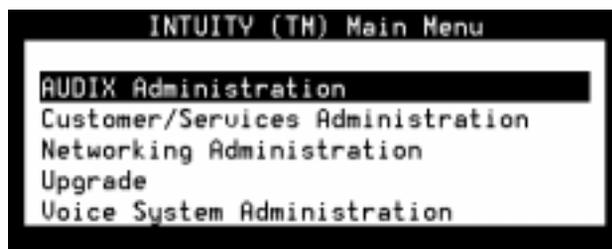

Figure 8-1. Lucent INTUITY Main Menu
2. Start at the Lucent INTUITY Main menu (Figure 8-1).